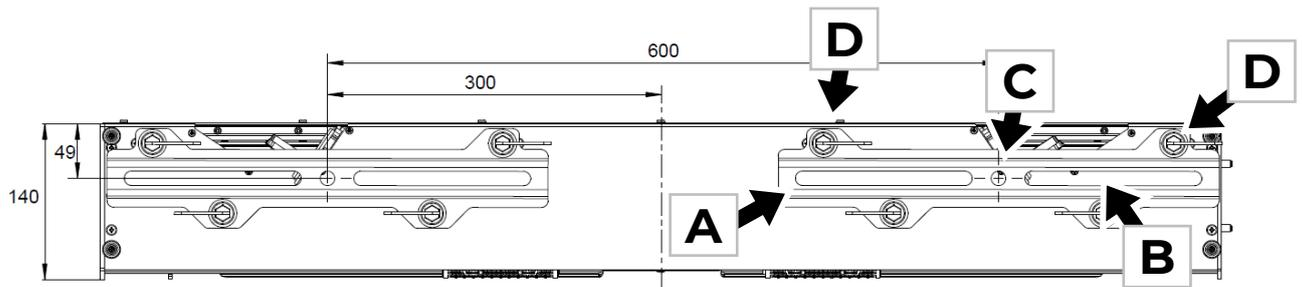

Figure 6. Rigging brackets
2. See Figure 6. Bolt at least one rigging clamp securely to each of the two rigging brackets **A** that are supplied with the fixture using high-tensile steel screws or bolts and self-locking nuts with washers passed through the slots **B** or central holes **C** in the rigging brackets.